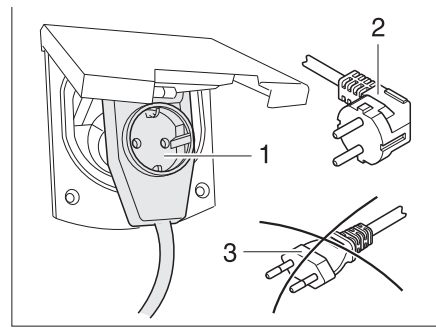

Fig. 236 Connecting an angled connector with socket
- ▶ When using a CEE 17 angled connector with rear socket (Fig. 236,1) only use a rubberised and sealed IP 44 socket with earth contact (Fig. 236,2). Do not use sockets without earth contact (Fig. 236,3). Danger of electrocution!